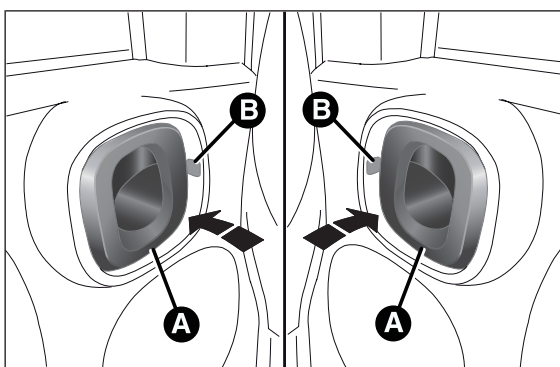

fig. 46
**IMPORTANT** The locked door condition is indicated by the red printing B fig. 46.